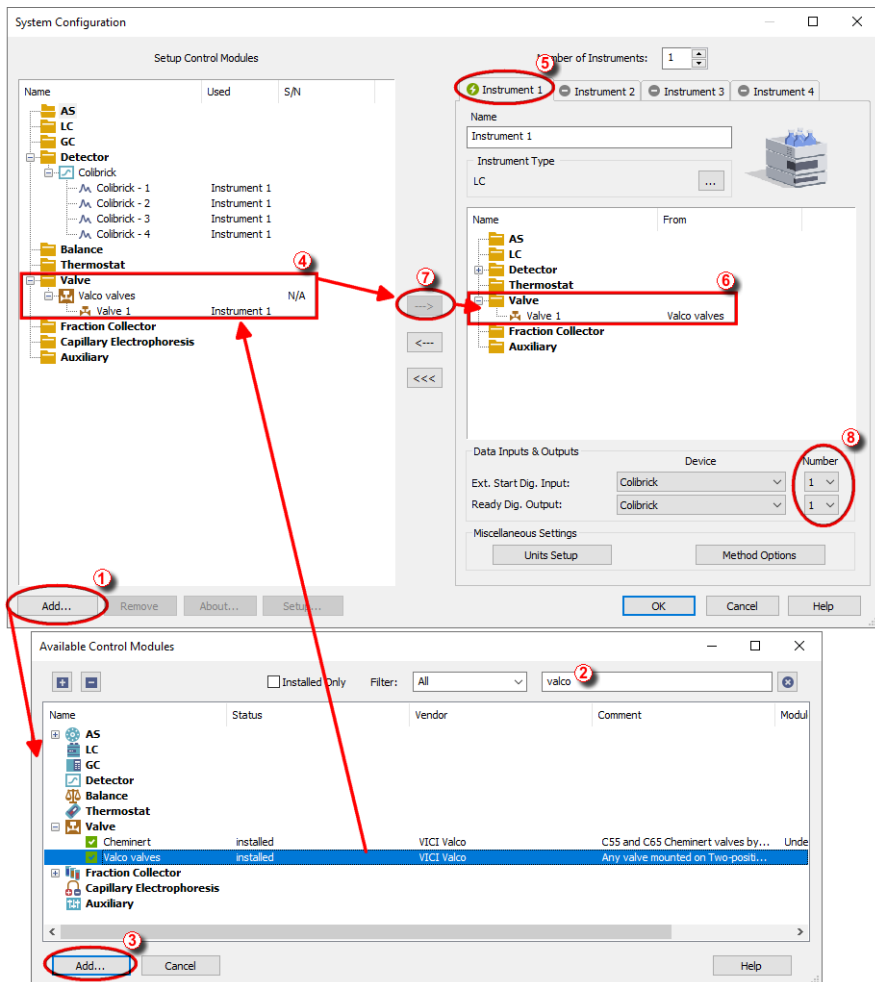

Fig 3: System Configuration
- Press the **Add** button ① (see **Fig 3** on pg 4.) to invoke the **Available Control Modules** dialog.
- You can specify the searching filter ② to simplify the finding of the driver.
- Select the **ET, EH, EP, EHM, EMT, ECHM, ECMT** item and press the **Add** ③ button.